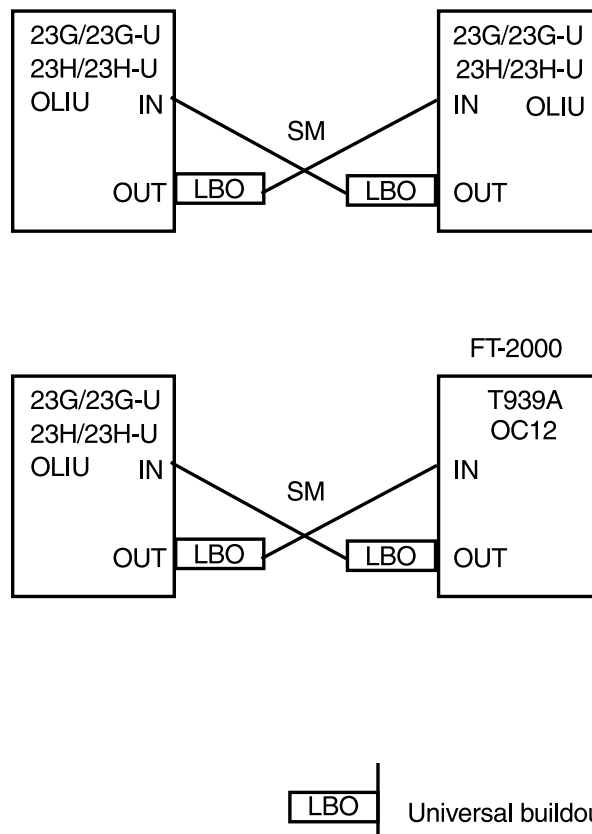

Figure 1. DDM-2000 OC-12 - FT-2000 OC-12 Fiber Optic Connections and Line Buildouts
9. Replace the lightguide buildout assemblies with the correct buildout assemblies per Figure 1 and Tables B, C, D, E, F, and/or G [DLP-538].